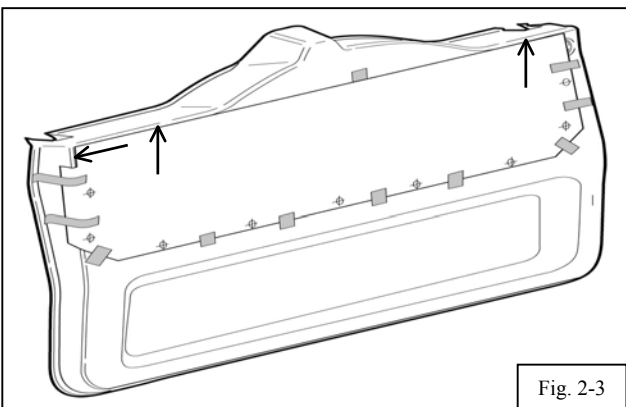

Fig. 2-3
-  (a) Align upper edge of paper marking template to upper edge of back door panel. (Fig. 2-3)
-  (b) Align cutout on upper left corner of paper drill template to upper left corner of back door panel. (Fig. 2-3)
- (c) Use tape at locations indicated on the template to hold the template in place. (Fig. 2-3)